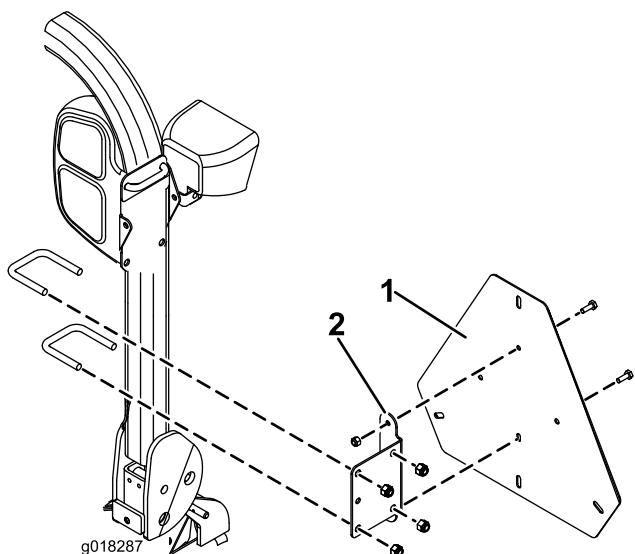

Figure 10
1. Mount the slow moving vehicle (SMV) emblem to the SMV emblem bracket with 2 bolts (1/4 x 3/4 inch) and 2 locknuts (Figure 10).
2. Loosely mount the SMV emblem bracket to the outside of the left ROPS post with 2 U-bolts and 2 locknuts (3/8–16) (Figure 10).